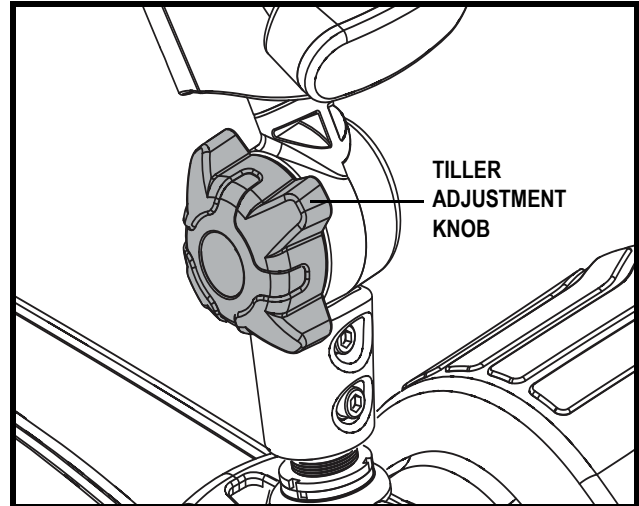

Figure 16. Tiller Adjustment
1. While supporting the tiller, turn the tiller adjustment knob anticlockwise to loosen the tiller. See **figure 16**.